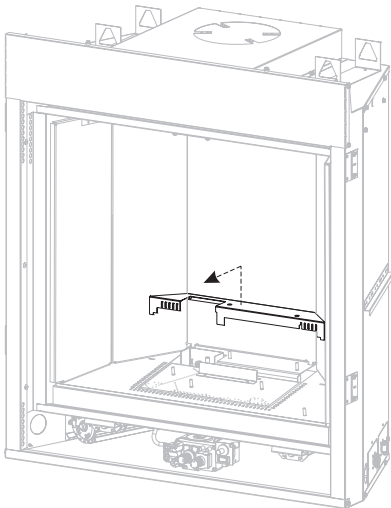

Figure 7
4. Remove the modern burner cover by lifting off. **See Figure 7.**